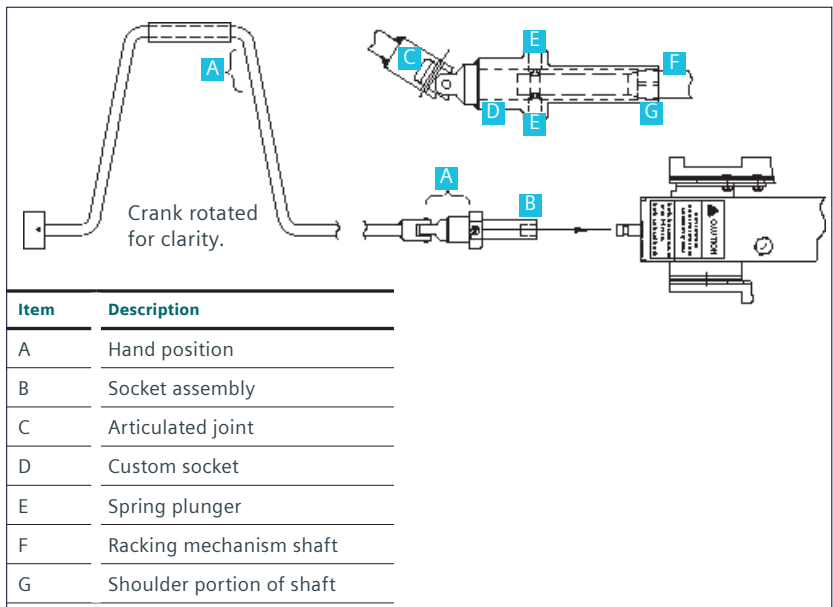

Figure 43: Racking crank engagement procedure
2. Hold the socket end of the racking crank in one hand and the crank handle in the other hand (refer to Figure 43: Racking crank engagement procedure).